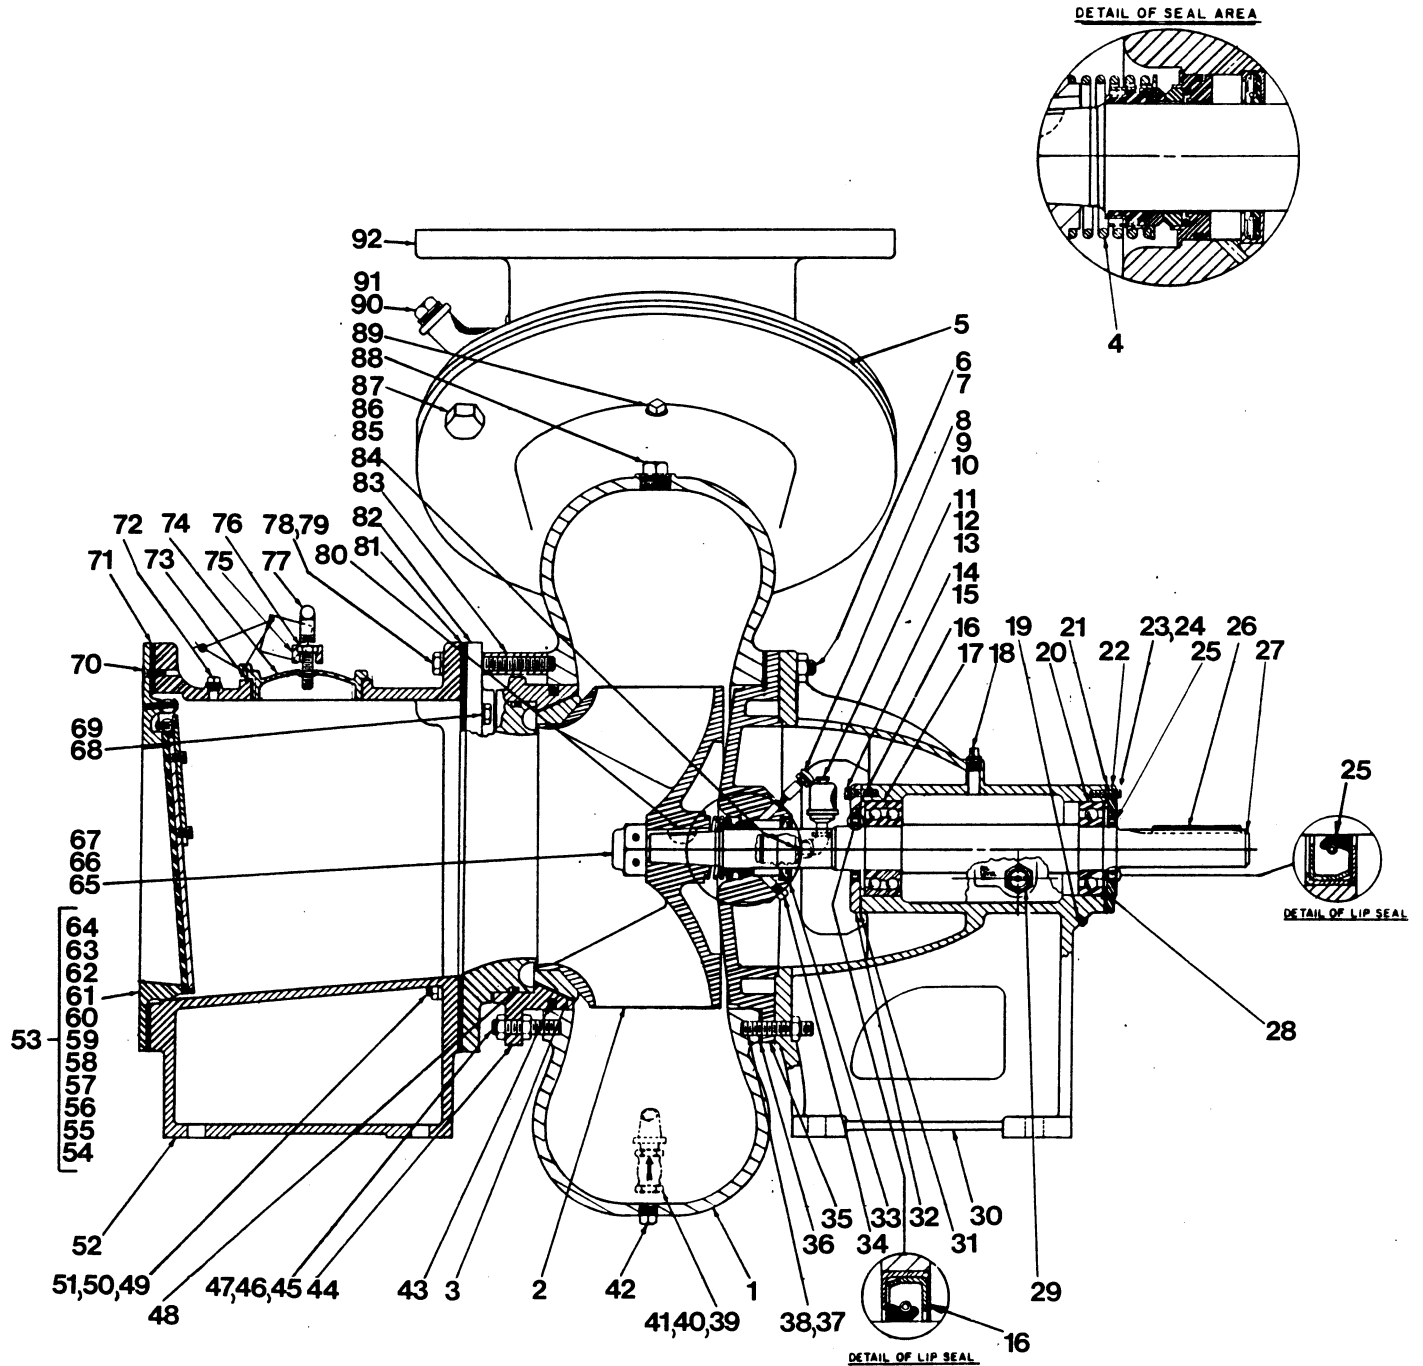

Figure 2. Pump End Assy 112A20-B
(Figure 2)
See Figure 1 and disconnect the suction piping from the adaptor flange (101). Disengage the hardware securing the suction flange (108) to the check valve flange (52, Figure 2) and remove the flange and gasket (107).